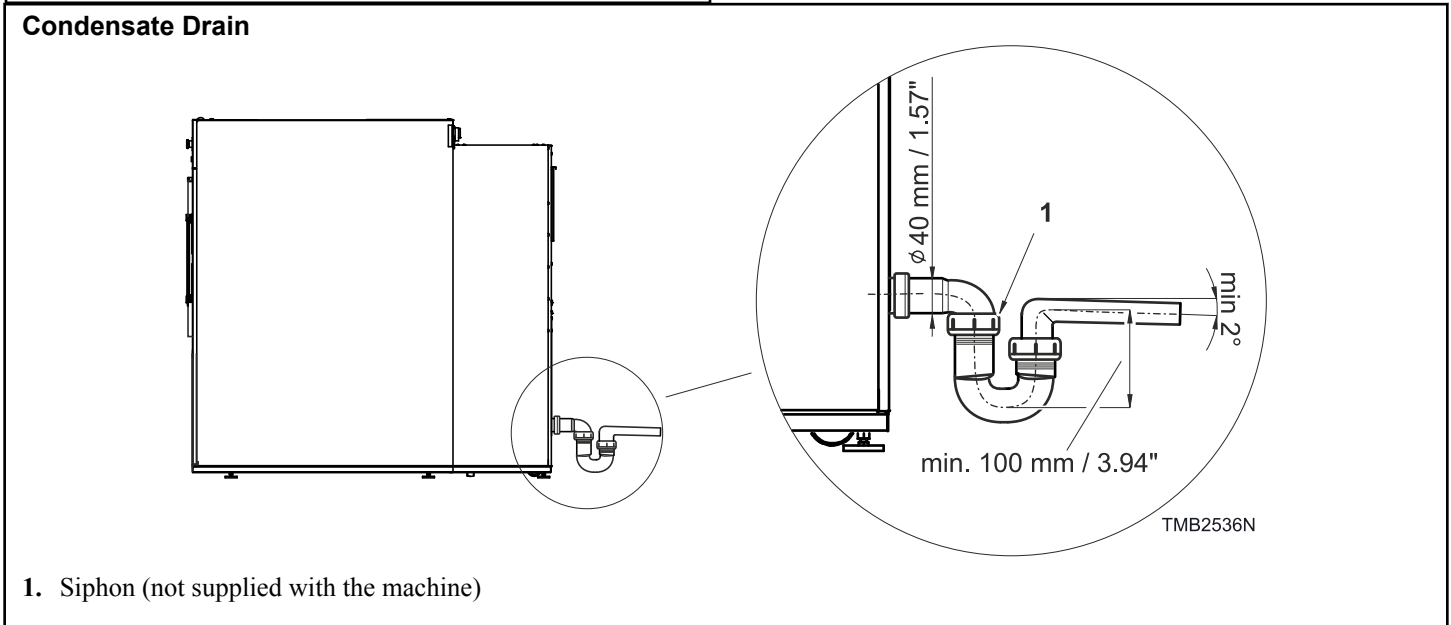

Figure 16
Condensate drain in the back of the dryer. Refer to *Figure 4*, pos. 9 and *Figure 6*, pos.11. For 9 kg / 20 lb / 195 L refer to *Figure 5*, pos.9. The dryer produces condensate which must be drained from the machine. Refer to *Figure 16*. The drain pipe must be designed in a manner ensuring that the condensate formed during the machine operation is sufficiently drained off. In case that a blockage or clogging of the condensate drain occurs, a risk of flooding the motor with condensate arises. (Not valid for 9 kg / 20 lb / 195 L)